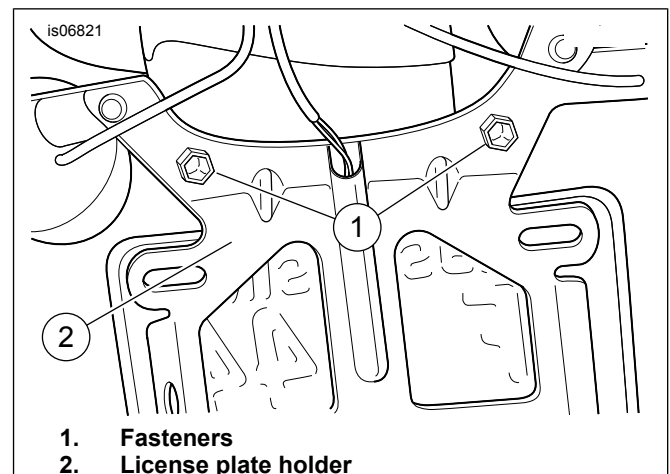

Figure 2. License Plate Holder
2. See Figure 2. Remove and retain the two fasteners (1) securing the stock license plate holder (2) to the light bar.